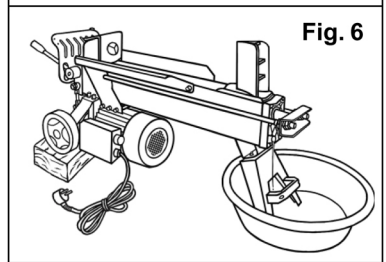

Fig. 6
- If you want to change the oil, please drain the tank firstly. Put the front frame of the unit in some container, raise the wheels 5cm off the ground on blocks, and drain the hydraulic tank. (Fig. 6)